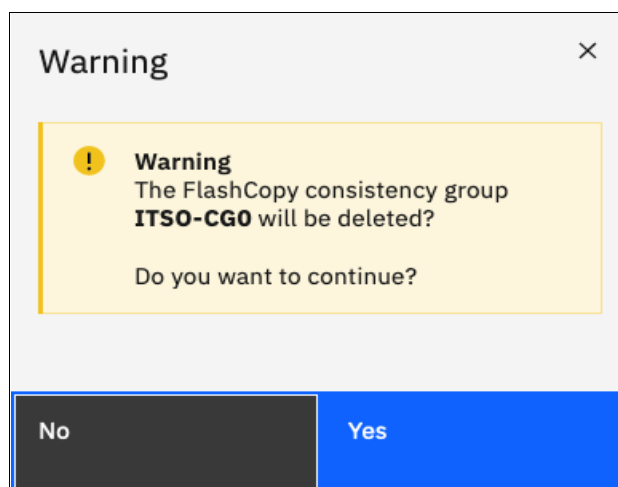

Figure 10-58 Confirming the consistency group deletion
3. A warning message is displayed, as shown in Figure 10-58. Click **Yes**.